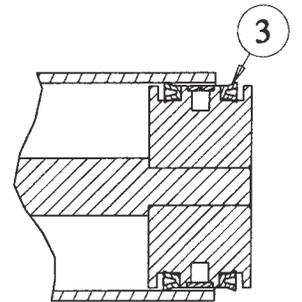

Figure 4
6. Slide piston and rod assembly through the cylinder tube (piston end first) until the groove for the second is exposed. *See Figure 4.* Be careful not to push the piston too far. If you expose the wear strip and first piston seal you must push the piston completely through and start this step over.